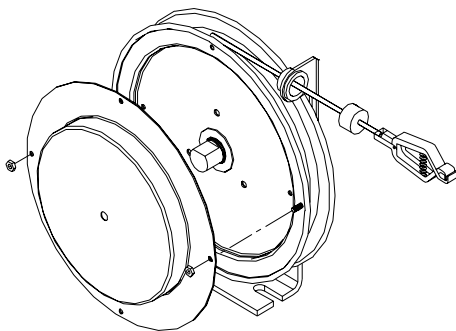

Fig 3.0 (SD Reel)
- Remove two nuts from spring cartridge. (See figure 3.0)